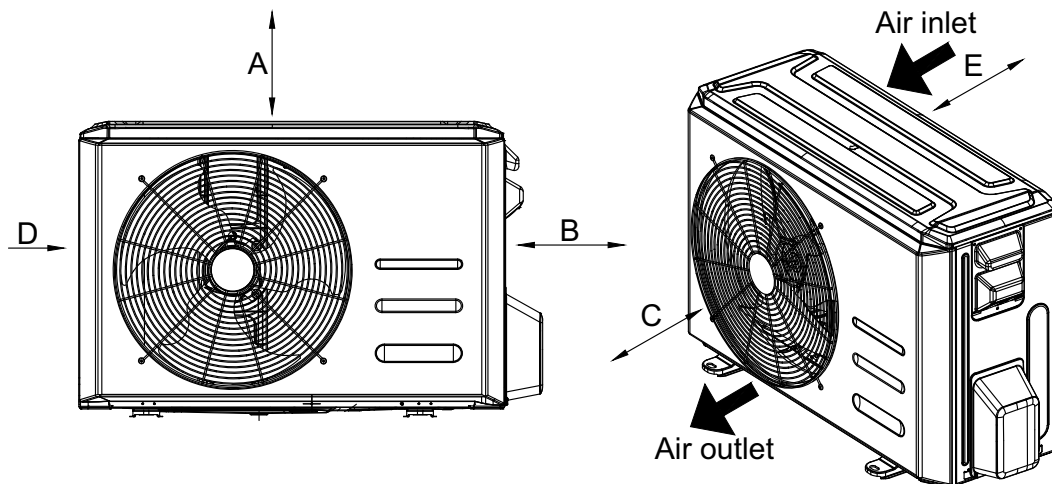

Fig. 6 — Outdoor Unit Clearances
- A location which provides appropriate clearances (see Fig. 6).
- Allow sufficient space for airflow and service of the unit. See Fig. 6 — on page 7 for the required minimum distances between the unit or walls.